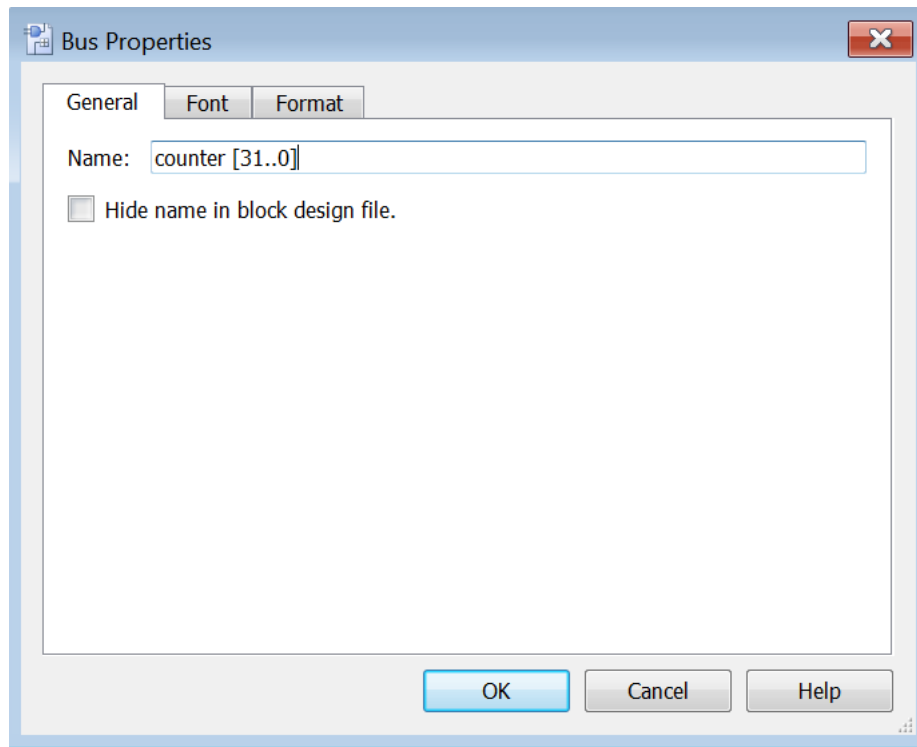

Figure 3-19 Change the output BUS name
- i. Type `counter [31..0]` as the bus name (see **Figure 3-19**). The notation `[X ..Y]` is the Quartus II method for specifying the bus width in BDF schematics, where X is the most significant bit (MSB) and Y is the least significant bit (LSB).